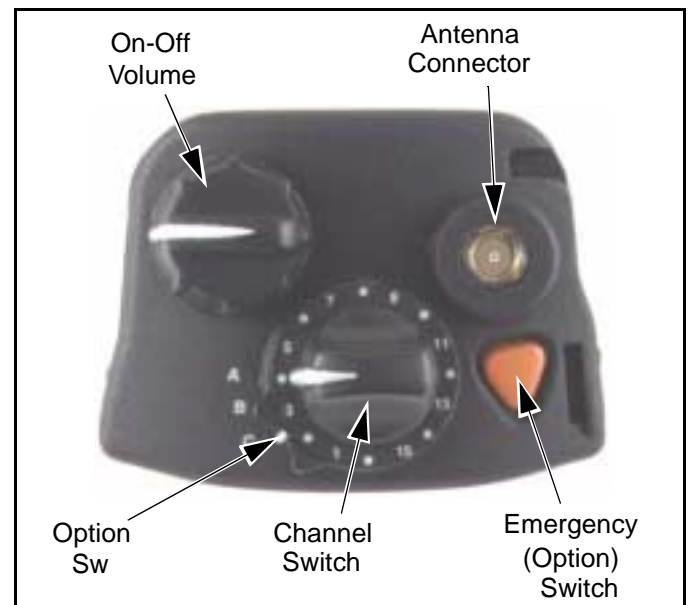

Figure 2-2 Top Panel Controls
- The 3-position toggle switch on the top panel (see Figure 2-2).